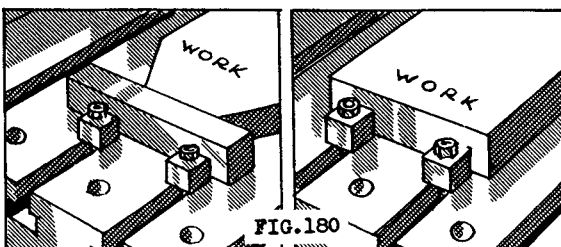

FIG. 180
9. Provide a washer and a nut for each bolt, adjust the stop to the work, and tighten the nuts securely. Individual stops C also may be used with, or without, a C bar (Fig. 180).